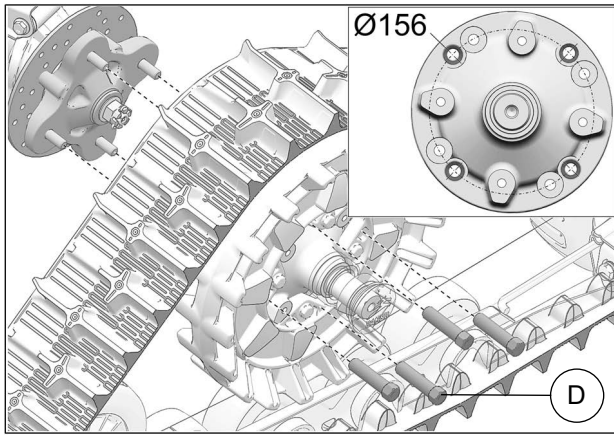

Fig. 30
13. Secure undercarriage to front hub using the provided M12 lug nuts (D). Use bolt circle Ø156mm. See Fig. 30